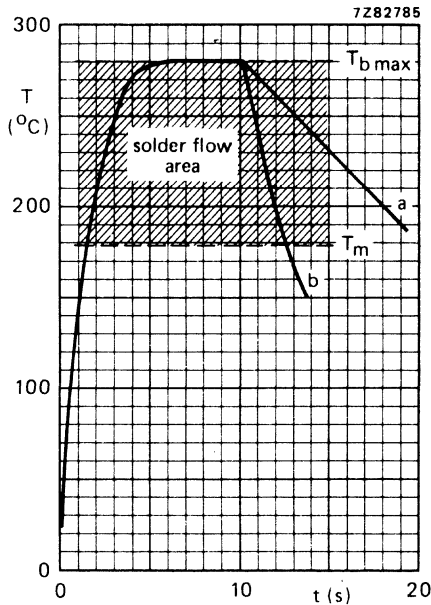

Fig. 1 Device temperature during immersion soldering.
- Forced cooling may be applied (see Fig. 1).